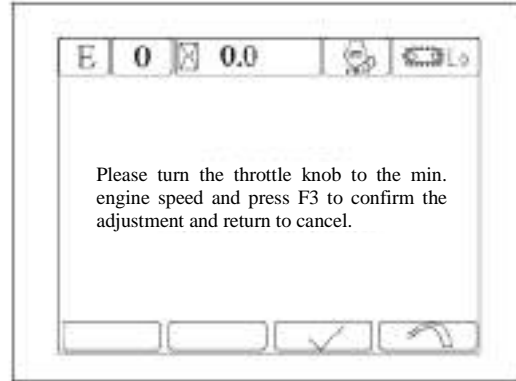

Figure 3-24 Turn throttle knob to min. engine speed
c) Turn the throttle knob to min. engine speed and press F3 to confirm the adjustment. The interface is shown in Figure 3-24.